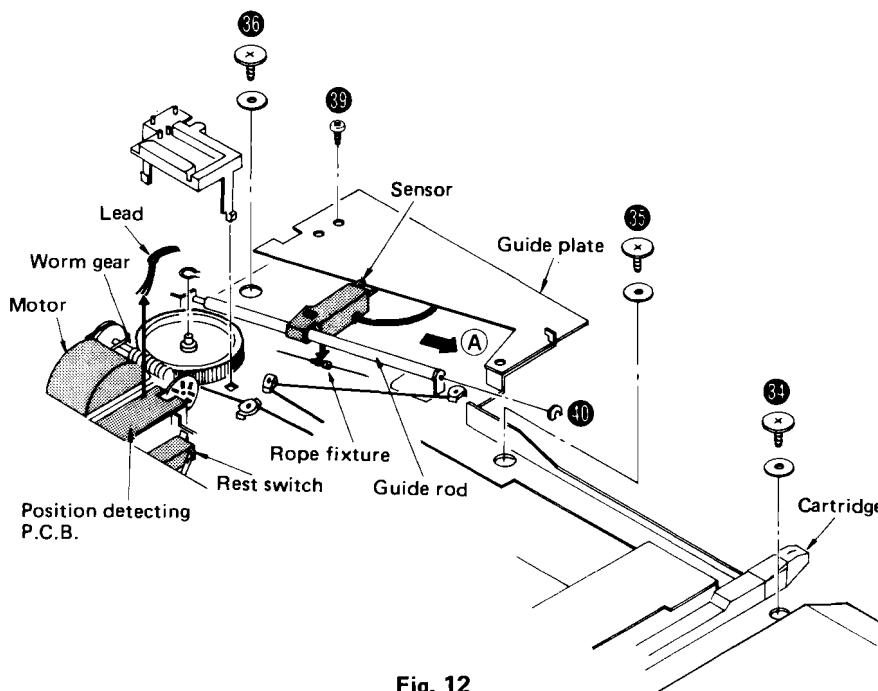

Fig. 12
5. Remove the 3 setscrews (Fig. 12: 34 ~ 36) of the dust cover.
3. Remove the screw of the guide plate. (Fig. 12: 39)
4. Remove the rope fixture of the sensor. (Fig. 12)
5. Remove the guide rod fitting clip 40 and remove the guide rod. (Fig. 12)
6. Pull out the sensor in the direction of the arrow (A). (Fig. 12)